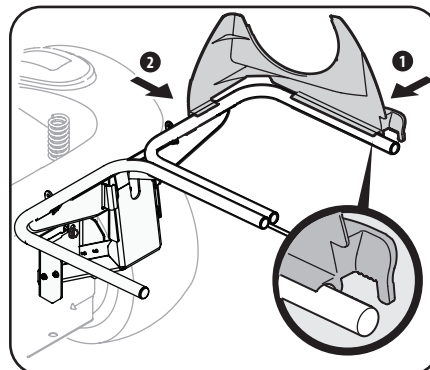

Figure 4-4
1. Snap the plastic upper chute support in place by first clipping the side portion onto the bagger support rail with the edge of the snap feature aligned with the red line, as shown in 1 of Figure 4-4.
2. Snap the front side of the chute support to the rail, as shown in 2 of Figure 4-4.